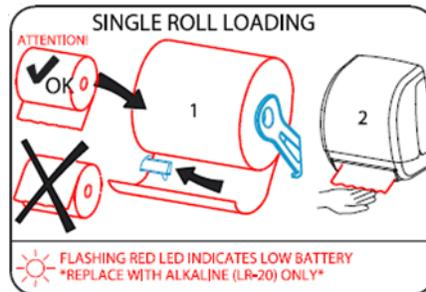

Fig. 6
1. Place roll onto wire holders. Paper is to be loaded with paper end unwinding from the back of the roll as shown in Fig. 6 above.
2. Paper end is then placed under the transfer bar arm as identified by arrow in Fig. 6, step 1 above.